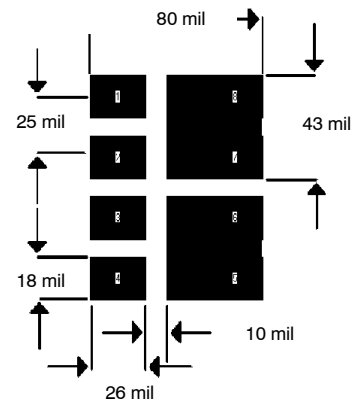
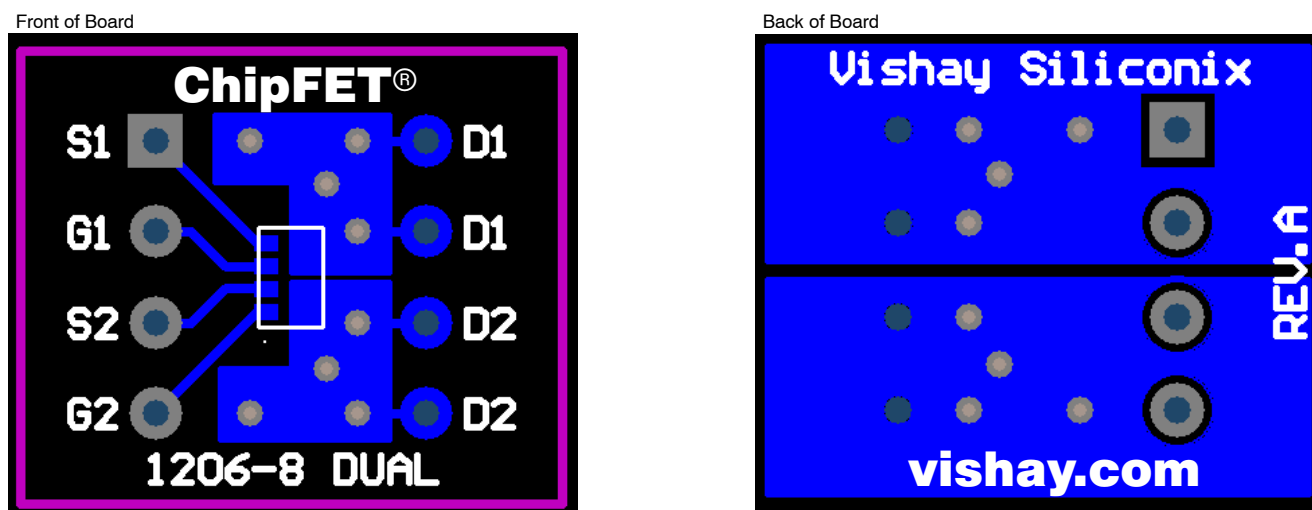

FIGURE 2. Footprint With Copper Spreading
FIGURE 3.
The pad pattern with copper spreading shown in Figure 2 improves the thermal area of the drain connections (pins 5 and 6, pins 7 and 8) while remaining within the confines of the basic footprint. The drain copper area is 0.0019 sq. in. or 1.22 sq. mm. This will assist the power dissipation path away from the device (through the copper leadframe) and into the board and exterior chassis (if applicable) for the dual device. The addition of a further copper area and/or the addition of vias to other board layers will enhance the performance still further. An example of this method is implemented on the Vishay Siliconix Evaluation Board described in the next section (Figure 3).
1) Minimum recommended pad pattern (see Figure 2) on the evaluation board size of 0.5 in x 0.6 in.	185°C/W
2) The evaluation board with the pad pattern described on Figure 3.	128°C/W